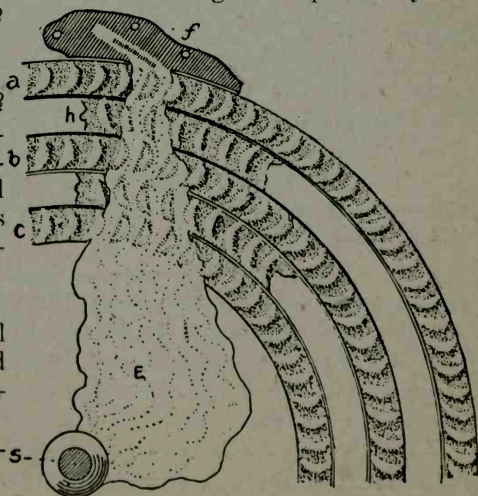

Fig. 2
A.—The engine consists of a main casting having three rows of exhaust or receiving buckets. The turbine wheel revolving in this casting has three rows of bottomless buckets or blades that are solid, cast in the wheel and fitted in a recess in the main casting in such a manner that the steam may pass from the blades of the wheel to exhaust buckets of casting and back into the next row of bottomless buckets in wheel, and so on until the final exhaust into a central chamber, thence to the atmosphere (as shown in Fig. 2).